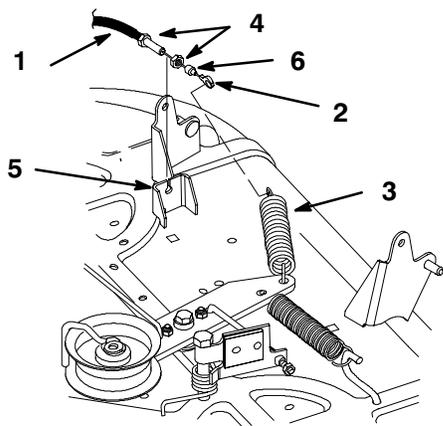

Figure 45
10. Remove the rubber wiper and first jam nut. Thread second jam nut onto the blade control (PTO) cable all the way. Route cable through slot in deck bracket and thread second jam nut onto cable (Fig. 45).
11. Hook end of blade control (PTO) cable onto idler spring (Fig. 45).